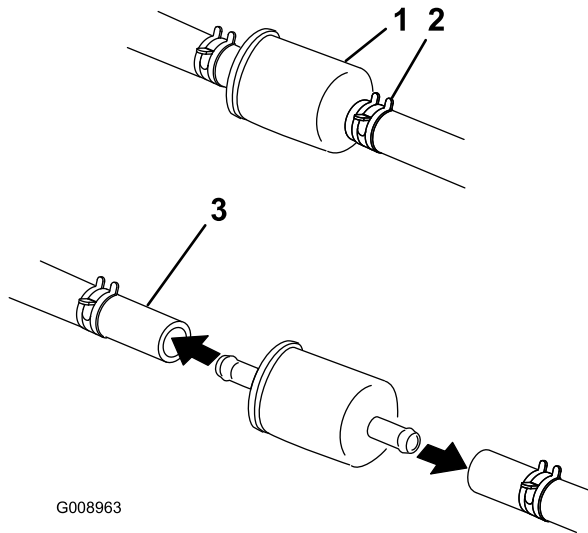

Figure 41
5. Squeeze the ends of the hose clamps together and slide them away from the filter (Figure 41).
7. Install a new filter and move the hose clamps close to the filter (Figure 41).